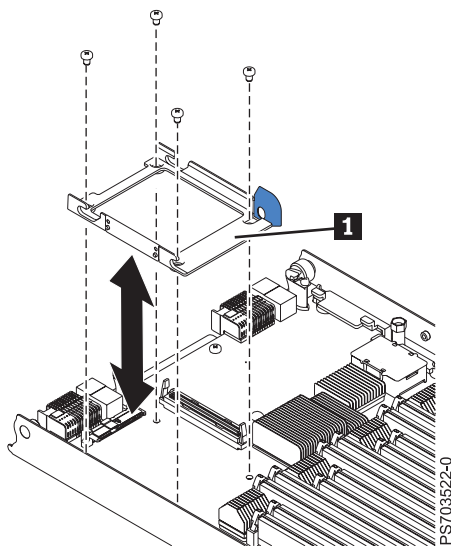

Figure 45. Installing the disk drive tray
1. Place the drive tray (**1** in Figure 45) into position on the system board and install the four screws to secure it.